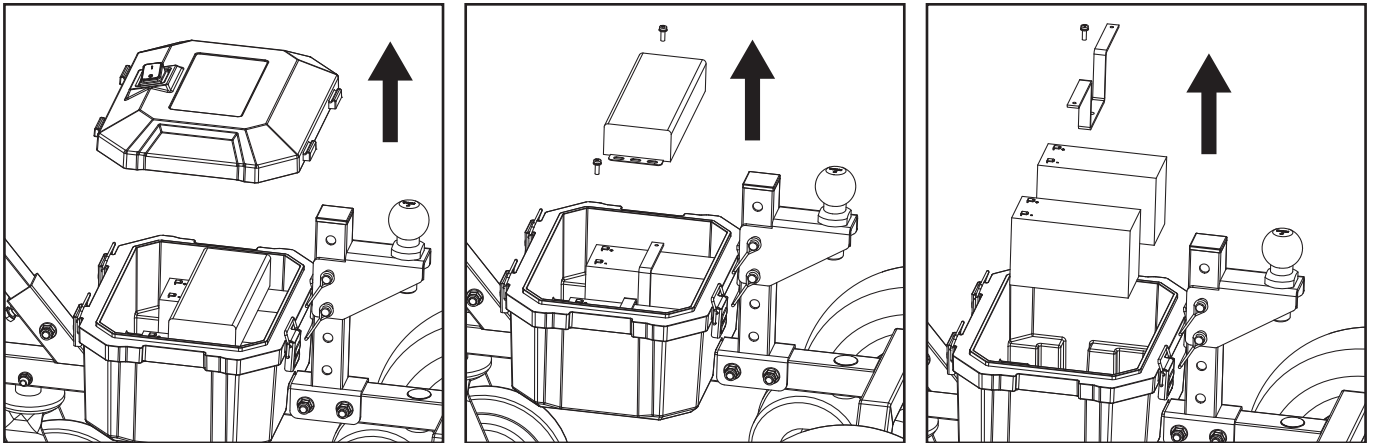

Fig.24
1. Open the battery case cover. Remove all terminals of the controller and the battery , loosen the screws at both ends of the controller to remove the controller, and then remove the screws on the battery holder to take out the battery. **(Fig.24)**